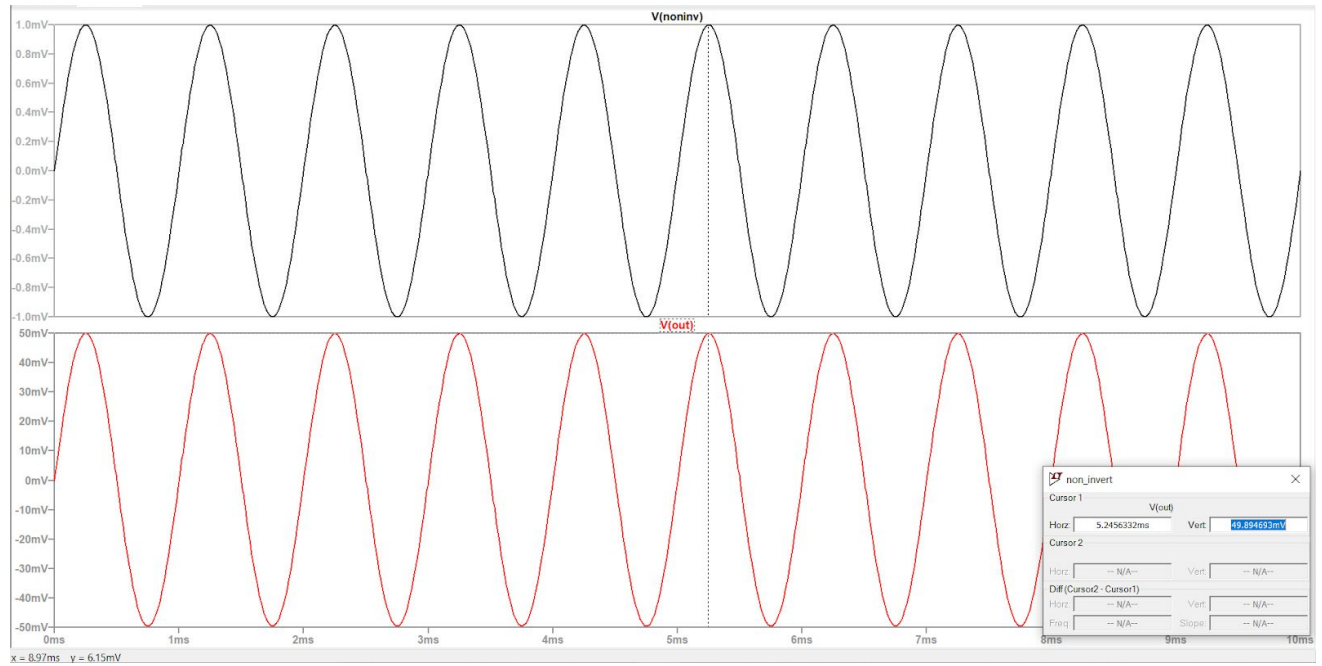

**Fig.11:transient response of Non-inverting configuration with  $R_2=9\text{ k}$  and  $R_1=1\text{K}$**
- a. of amplitude of 10 mV with No phase shift, thus giving a gain of 10 when  $1+R_2/R_1 = 10$ .(Fig.11)